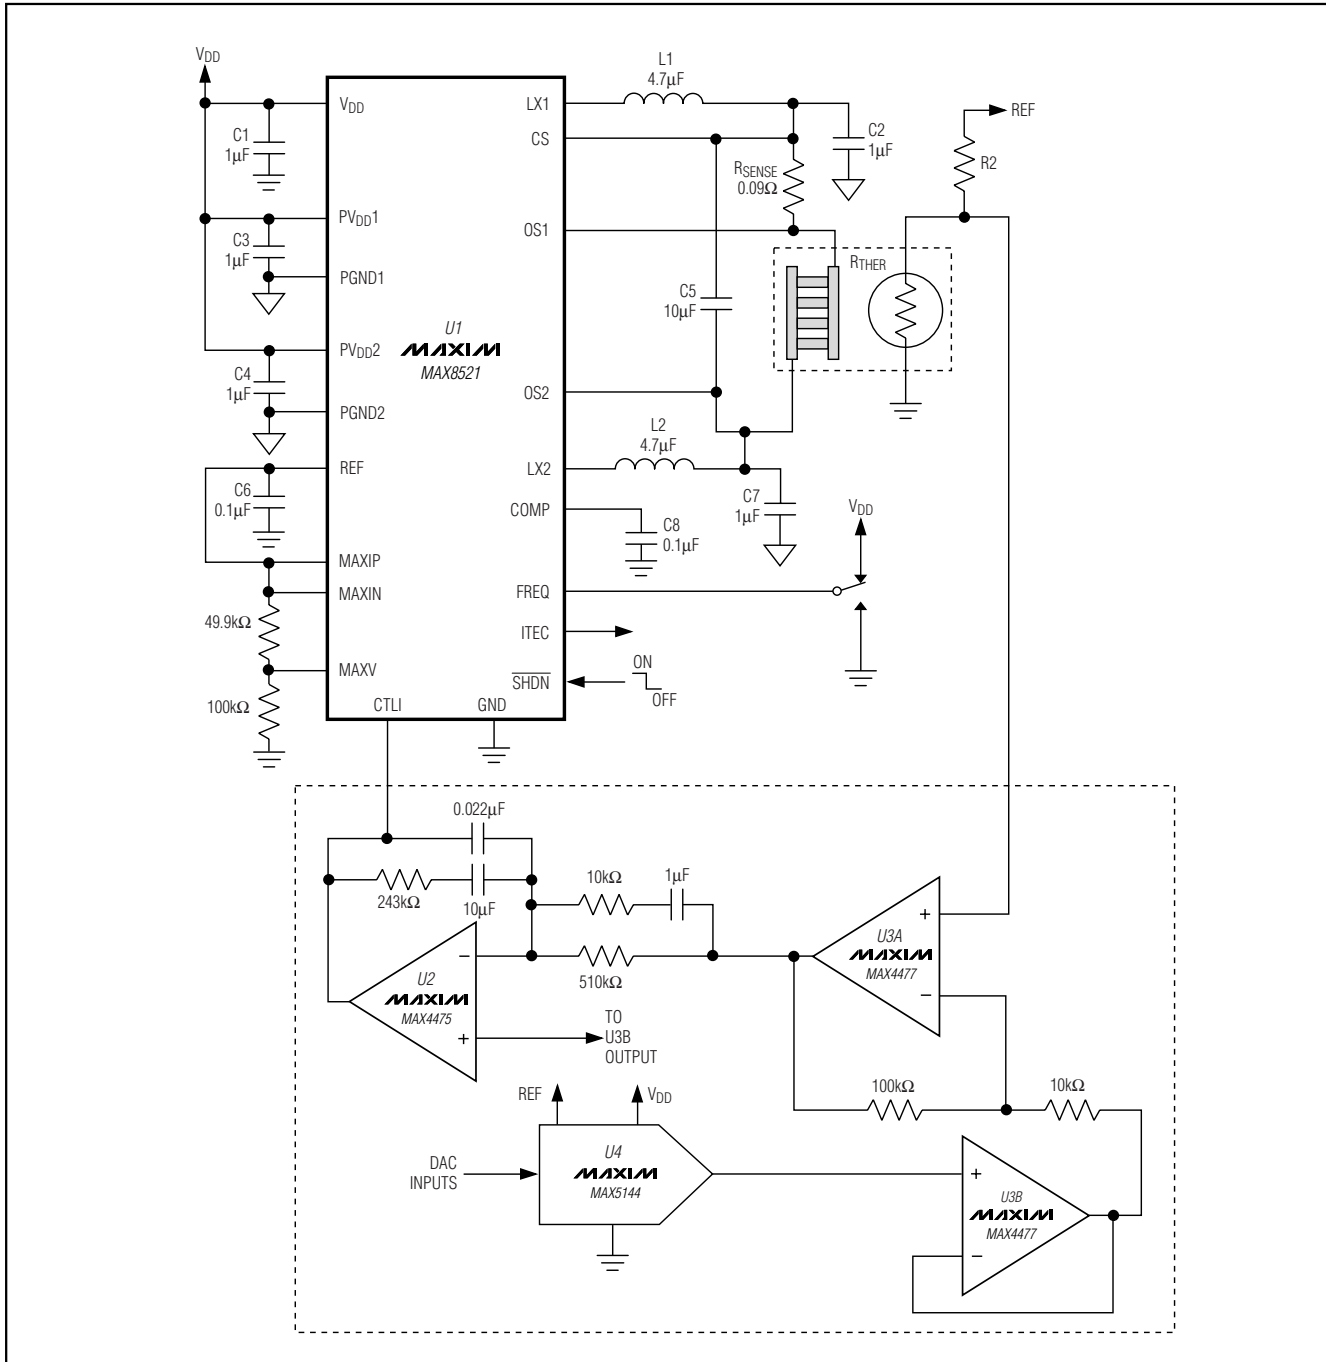

Figure 1. MAX8521 Typical Application Circuit
($V_{DD} = 5V$, circuit of Figure 1, $T_A = +25^\circ C$, unless otherwise noted)
($V_{DD} = 5V$, circuit of Figure 1, $T_A = +25^\circ C$ unless otherwise noted)
The MAX8520/MAX8521 TEC drivers consist of two switching buck regulators that operate together to directly control the TEC current. This configuration creates a differential voltage across the TEC, allowing bidirectional TEC current for controlled cooling and heating. Controlled cooling and heating allow accurate TEC temperature control to within $\pm 0.01^\circ\text{C}$. The voltage at CTLI directly sets the TEC current. An external thermal-control loop is typically used to drive CTLI. Figures 1 and 2 show examples of the thermal control-loop circuit.
Table 1. TEC Connection for Figure 1
The MAX8520/MAX8521 include an on-chip voltage reference. The 1.50V reference is accurate to 1% over temperature. Bypass REF with $0.1\mu\text{F}$ to GND. REF can be used to bias an external thermistor for temperature sensing as shown in Figures 1 and 2.
The common-mode filter capacitors (C2 and C7 of Figure 1) are used as filter capacitors to ground for each output. The output ripple voltage depends on the capacitance, the ESR of these capacitors, and the inductor ripple current. Ceramic capacitors are recommended for their low ESR and impedance at high frequency.
The differential-mode filter capacitor (C5 in Figure 1) is used to bypass differential ripple current through the TEC as the result of unequal duty cycle of each output. This happens when the TEC current is not at zero. As TEC current increases from zero, both outputs move away from the 50% duty-cycle point complementarily. The common-mode ripple decreases, but the differential ripple does not cancel perfectly, and there is a resulting differential ripple. The maximum value happens when one output is at 75% duty cycle and the other is at 25% duty cycle. At this operating point, the differential ripple is equal to 1/2 of the maximum common-mode ripple. The TEC ripple current determines the TEC performance, because the maximum temperature differential that can be created between the terminals of the TEC depends on the ratio of ripple current and DC current. The lower the ripple current, the closer to the ideal maximum. The differential-mode capacitor provides a low-impedance path for the ripple current to flow, so that the TEC ripple current is greatly reduced. The TEC ripple current can then be calculated as follows:
There are numerous ways to implement the thermal loop. Figures 1 and 2 show designs that employ precision op amps, along with a DAC or potentiometer to set the control temperature. The loop may also be implemented digitally, using a precision A/D to read the thermistor or other temperature sensor, a microcontroller to implement the control algorithm, and a DAC (or filtered-PWM signal) to send the appropriate signal to the MAX8520/MAX8521 CTLI input. Regardless of the form taken by the thermal-control circuitry, all designs are similar in that they read temperature, compare it to a set-point signal, and then send an error-correcting signal to the MAX8520/MAX8521 that moves the temperature in the appropriate direction.
- 6) To ensure high DC loop gain and minimum loop error, keep the board layout adjacent to the negative input pin of the integrator (U2 in Figure1) clean and free of moisture. Any contamination or leakage current into this node can act to lower the DC gain of the integrator, which can degrade the accuracy of the thermal loop. If space is available, it can also be helpful to surround the negative input node of the integrator with a grounded guard ring.